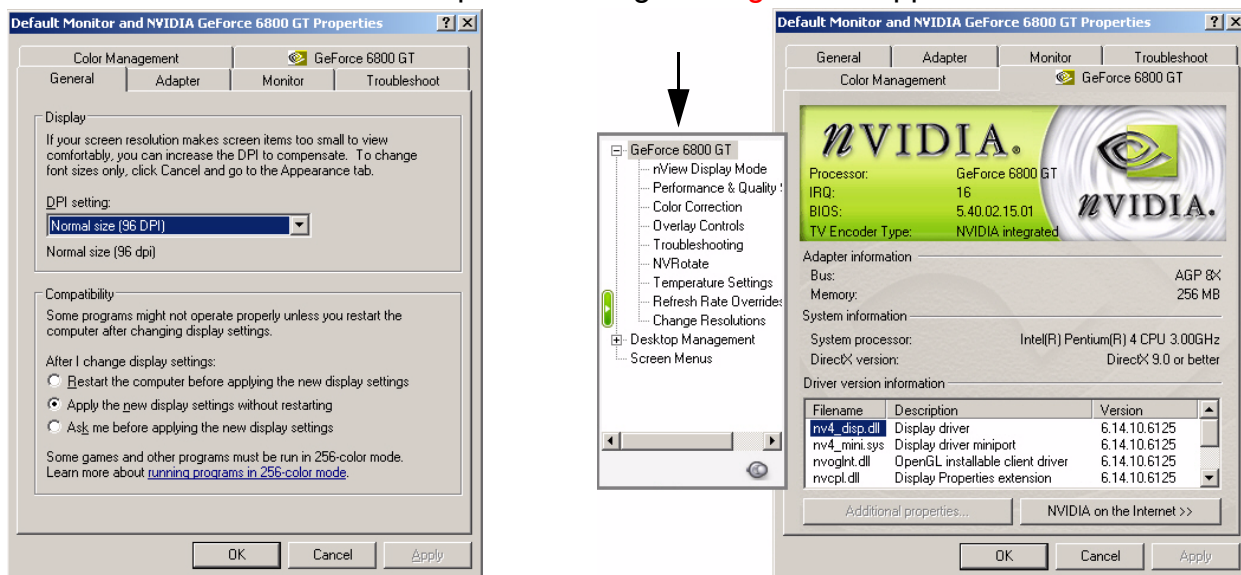

Figure 4-3. GeForce 6800 GT menu with all options displayed
- Click the **Advanced** button shown above. The menu below left appears, with the General tab selected by default. Click on the **GeForce 6800 GT** tab. The menu pictured at right in **Figure 4-3** appears.